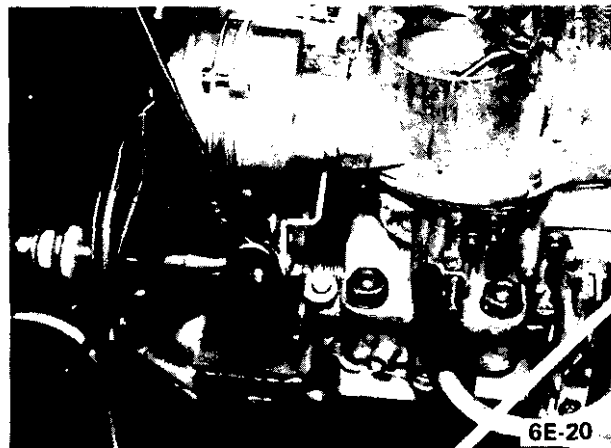

Figure 6E-20 Removing Choke Link
- Pry off vacuum case connecting lever. See Figure 6E-21.